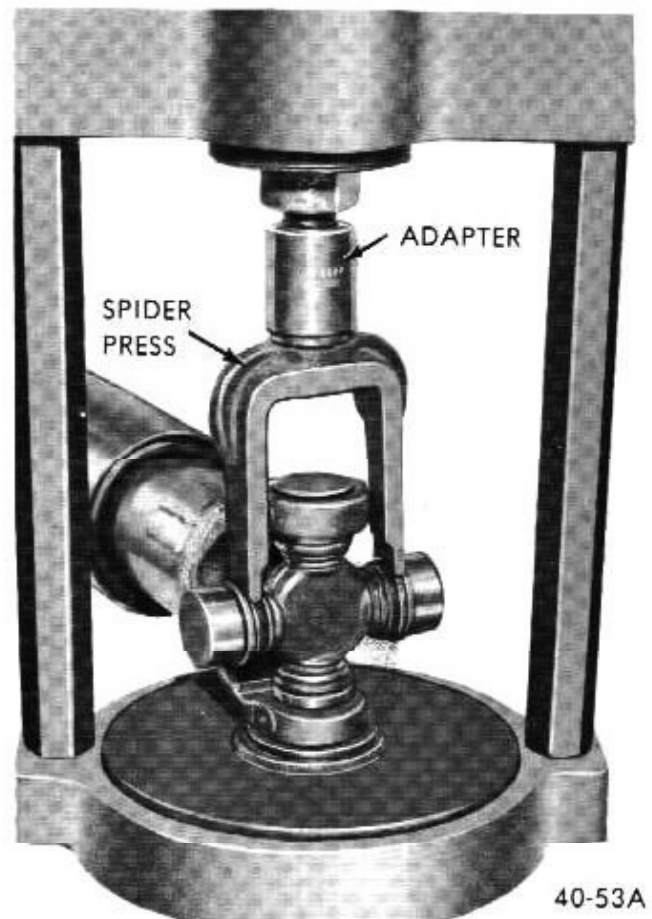

Figure 40-60 - Pressing Out U-Joint Bearing
1. Position propeller shaft and spider press J- 9522-3 in power ram equipped with base plate J-8853 and ram screw adapter J-9522-2. See Figure 40-60.